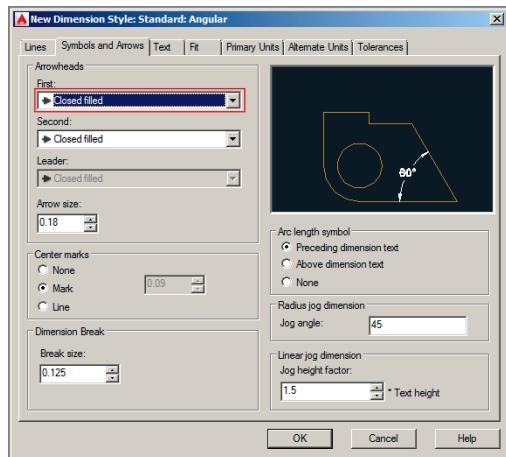

FIGURE 11.8 Customizing the arrowheads in the Angular sub-style
7. The New Dimension Style: Standard: Angular dialog box appears. Select the Symbols And Arrows tab. Change the First arrowhead drop-down to Closed Filled. The Second arrowhead automatically changes to Closed Filled as well (see Figure 11.8). The preview image reveals how the angular dimension will appear. Click OK.